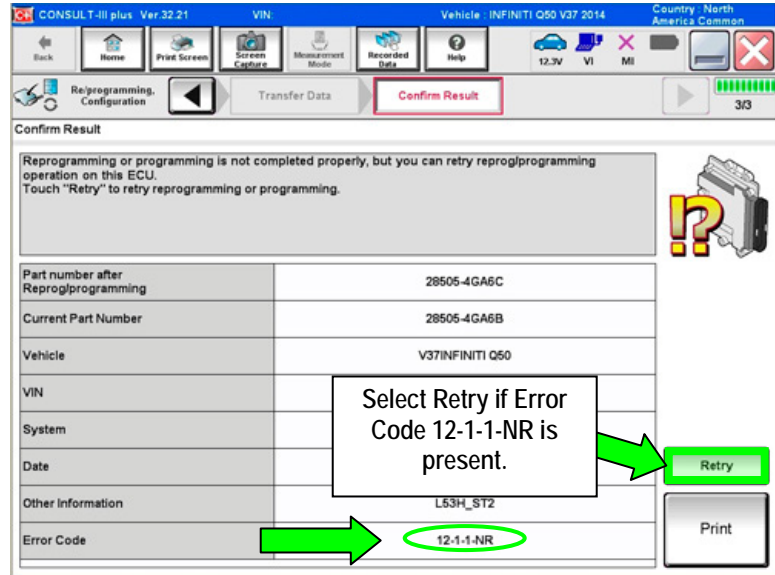

Figure 16
- If the progress bar freezes at 90% of a complete transfer to the VI and error code “12-1-1NR” is displayed (see Figure 16 on the next page), **turn the ignition OFF, then ON**, and then refer to Control Module Recovery on the next page.
If reprogramming does not complete and the “!” icon displays as shown in Figure 16: